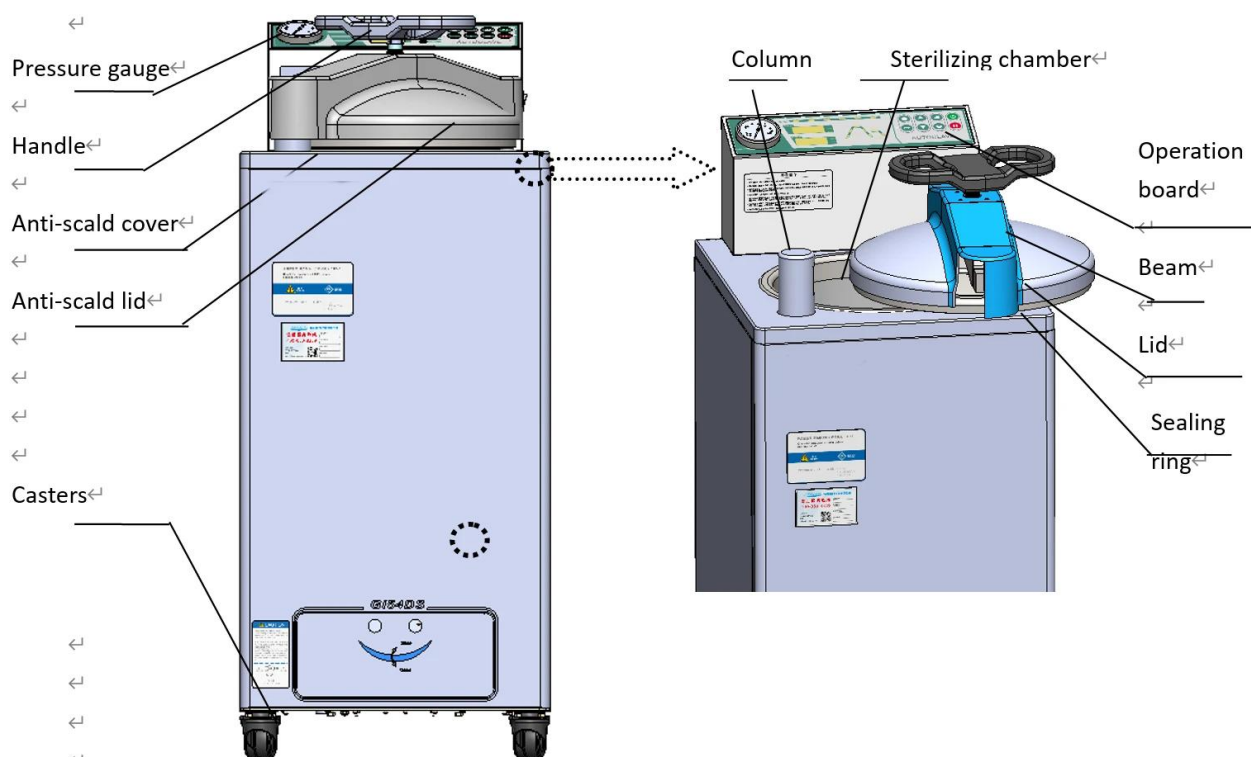

Figure 1
1) Check the water tank of the instrument(Fig1), make sure the water level is under the high water level line, empty it if too high. If you don't empty it, the water will come out. Put the exhaust tube into this exhaust water tank.